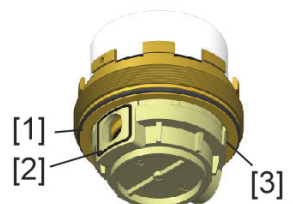

Fig. 3
- 2.10. Check that the moulded seal [2] is correctly seated in the groove provided on the outlet side (Fig. 3).